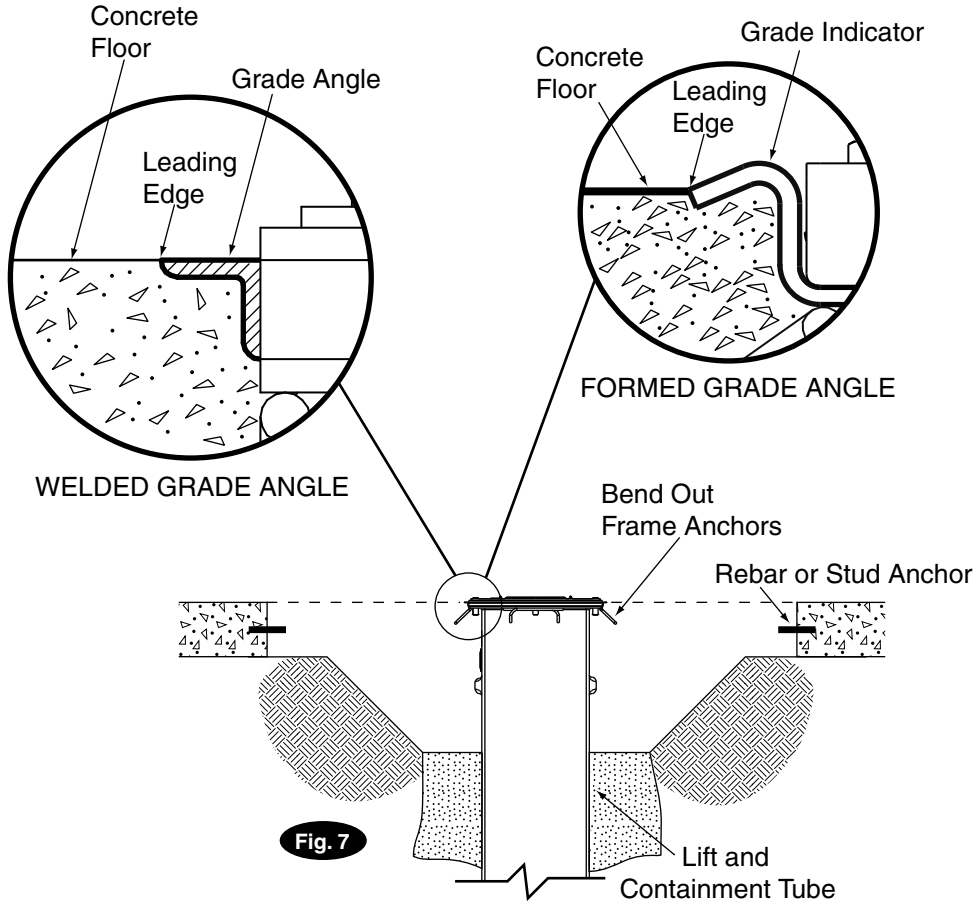

Fig. 7
- D. Make sure frame anchors are bent out, Fig. 7.
- B. New concrete around the lift must be keyed into existing floor with rebar or stud anchors, Fig. 7.
IMPORTANT Owner: Your Installer Is Responsible For The Concrete Floor Being Finished To The Leading Edge Of The Grade Angle (1/4" Below Top Of Lift), NOT To The Top Of The Lift, Fig. 7. Failure To Comply Will Void Warranty.